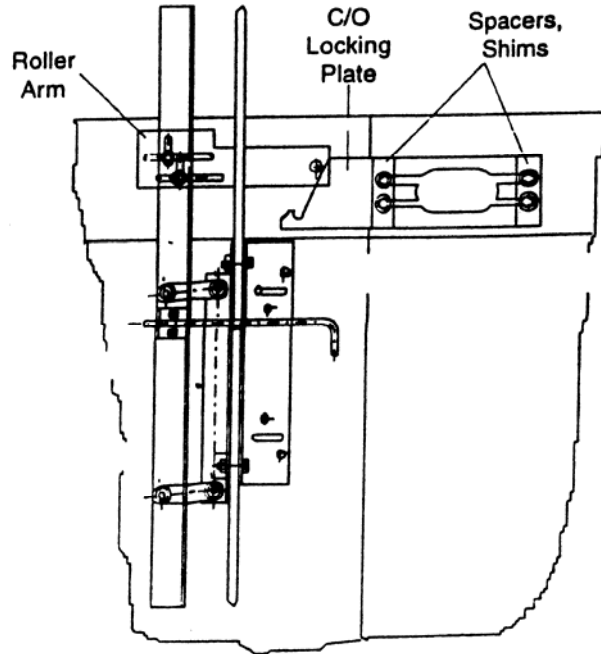

Figure 9
- b. For center-opening doors, drill and tap 5/16-18 in. threaded holes to position the locking plate and spacers on the hanger in line with the roller arm approximately as shown in Figure 9. It may be necessary to use shims with spacers for alignment.
- c. For center-opening doors, in the unusual case where there are high cab and high car doors and standard opening heights at all landings, install four 5/16-18 inserts (p/n 251CJ6) to position the locking plate and spacers on the car door in line with the roller arm approximately as shown in Figure 9. It may be necessary to use shims with spacers for alignment.